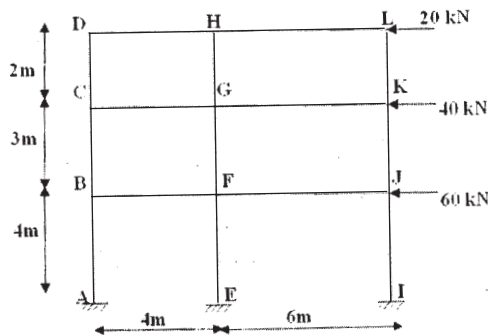

Fig 4
b) Using **Cantilever method of approximate analysis**, determine reactions and moments at all support of plane frame shown in the **Fig. 4**. Assume Area of column ABCD, EFGH and IJKL is A, 2A and 3A respectively. Hence draw SFD, AFD and BMD for column ABCD and beam DHL. [13]